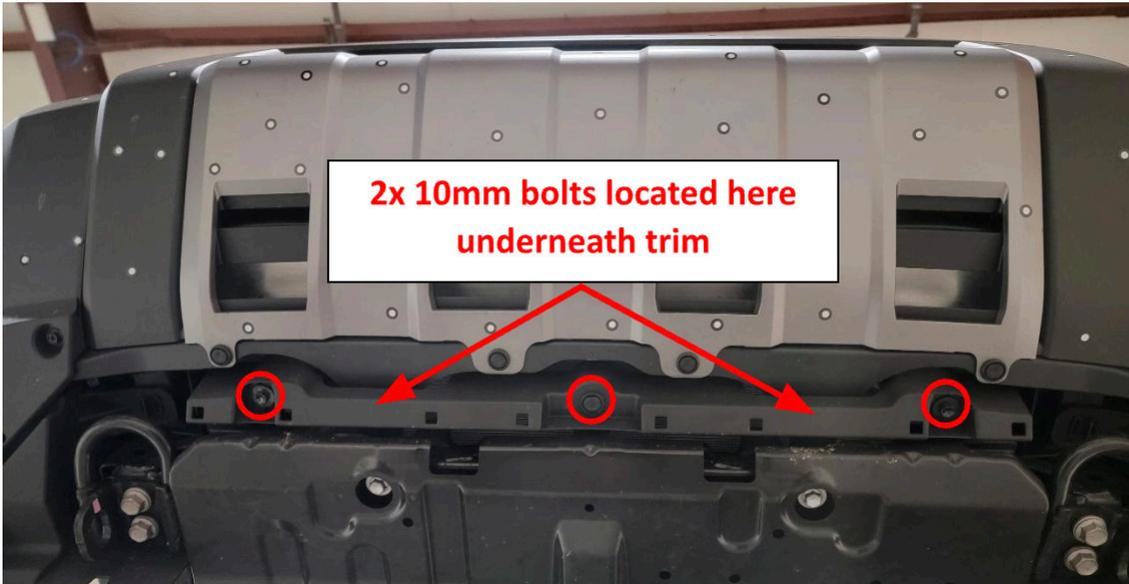

Figure 3.
3. Use a 10mm socket and panel pry tool, to remove the two (2) outboard screws and push pin in the center of the plastic trim piece between the bumper and skid plate. Once the trim is removed, you will have access to remove the two (2) screws holding the bumper on to the lower supports. Remove the two (2) screws using a 10mm socket. Figure 3.